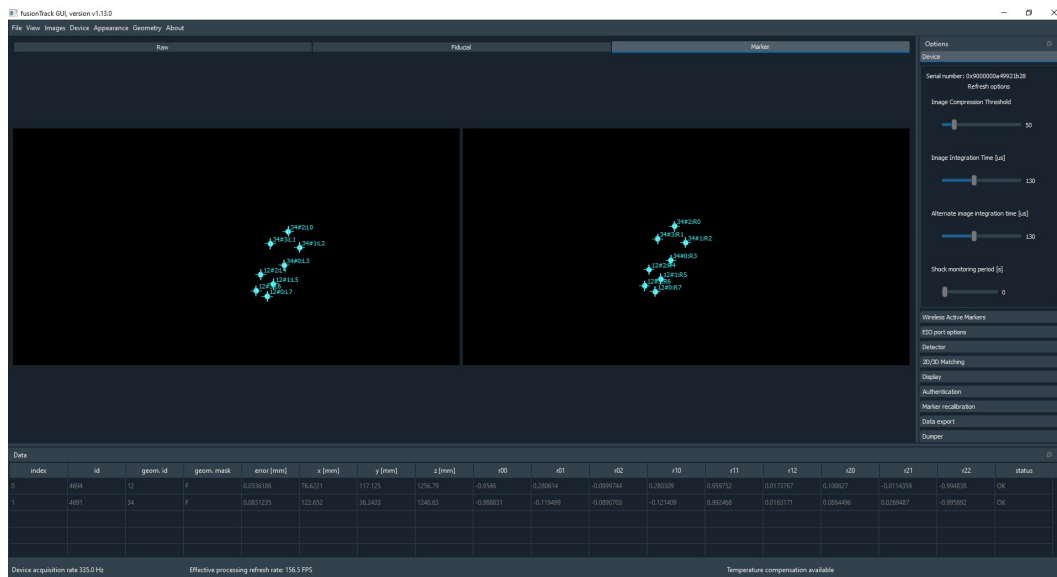

Figure 8.1: Running *GUI* program.
- *Marker*, consisting of a 3D position and a rotation matrix (this is what is shown on Figure 8.1). The demo allows to open the two storage locations in order to see the files.